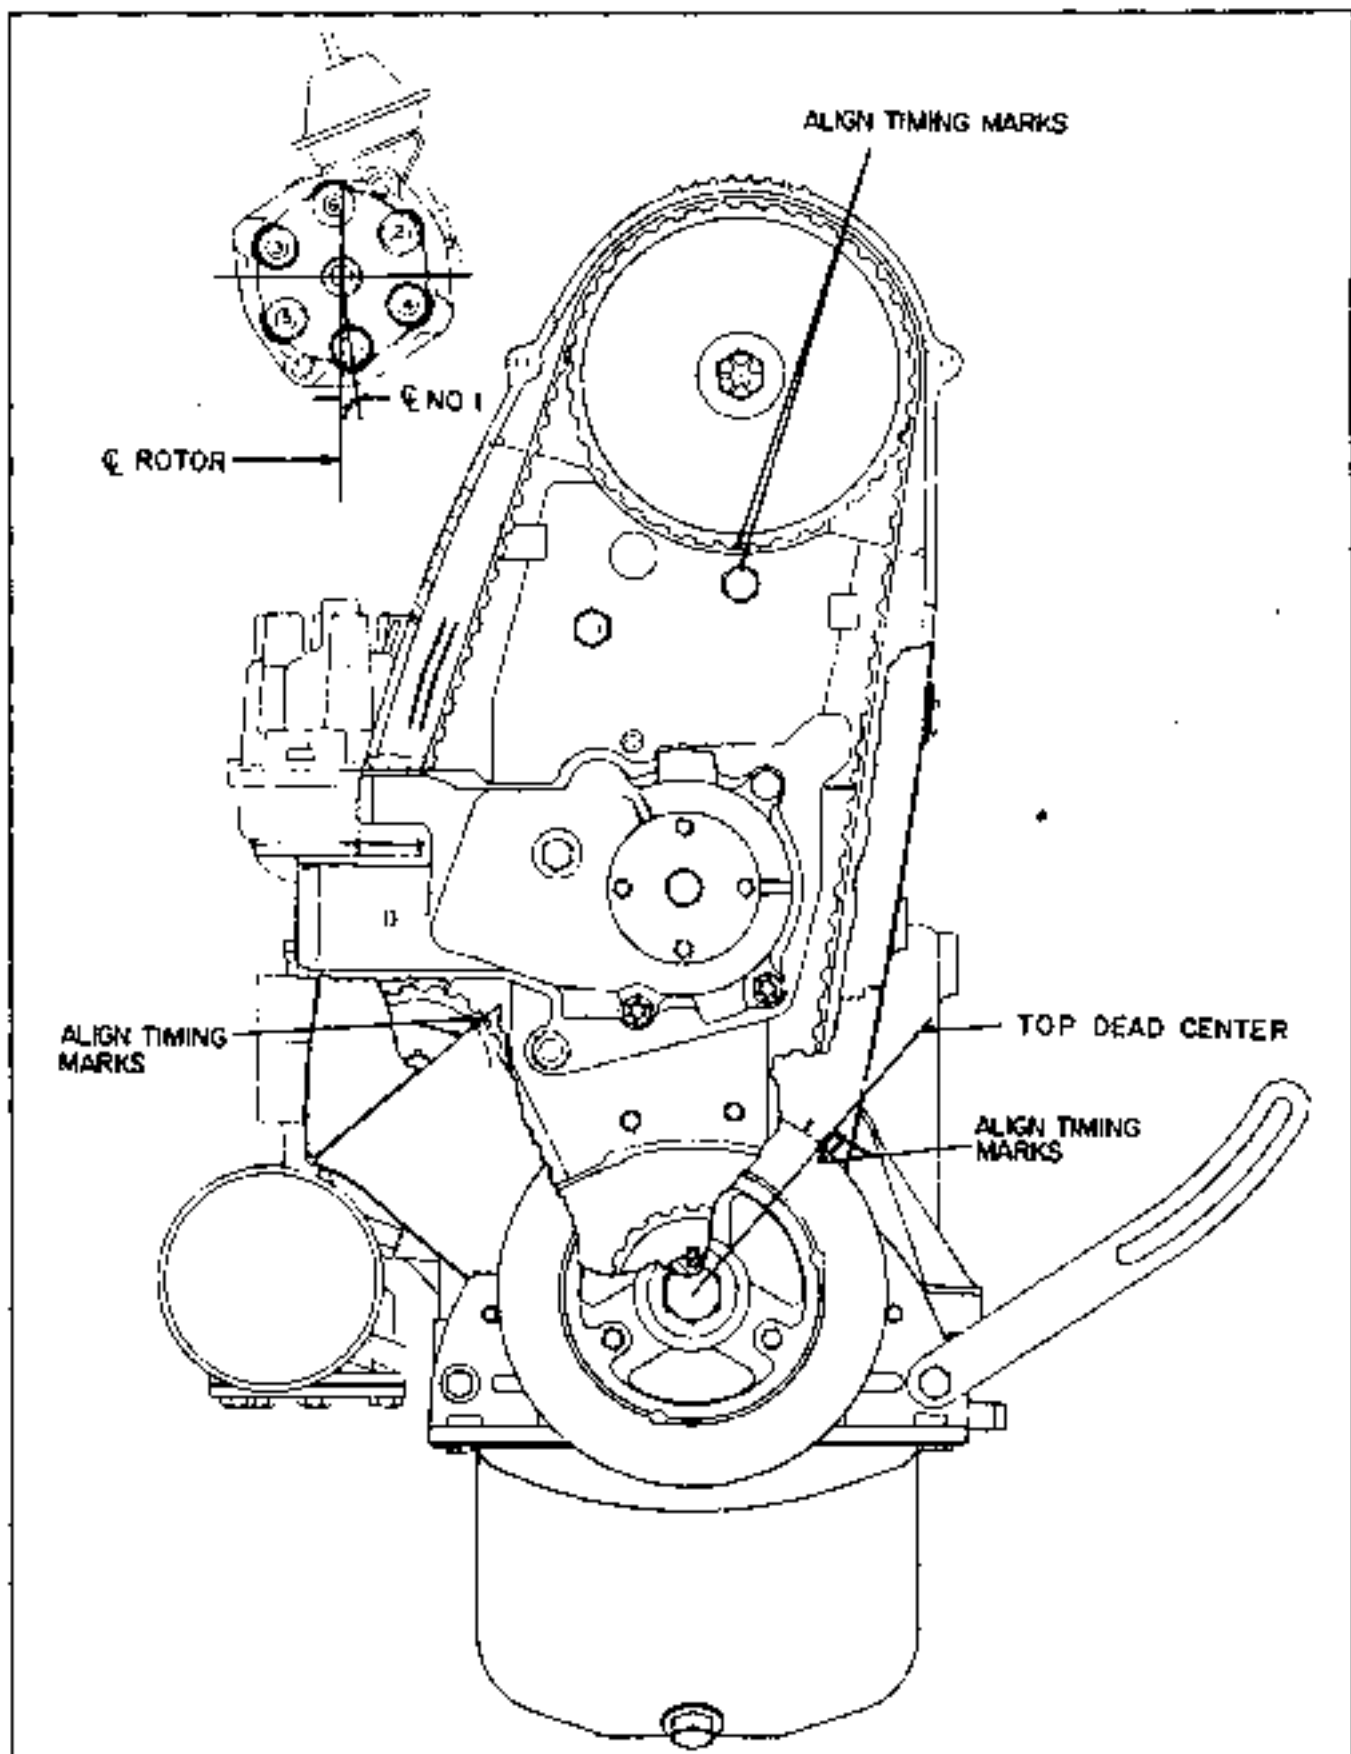

Fig. 6-7 Valve Timing Marks
2. Remove sprocket to camshaft retaining bolt (Fig. 6-7).
NOTE: For ease of reassembly, index three timing marks as shown in Fig. 6-7.